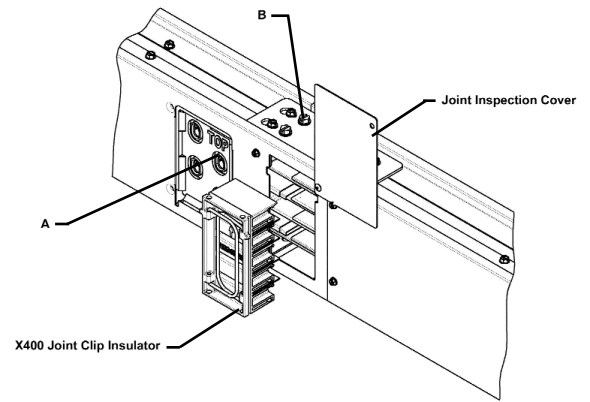

Figure 1
- 4.0.1.1 For normal edgewise mounting, the word "TOP" (A) is up. (See Fig. 1)
- 4.0.1.2 Loosen screws "B" and remove the external housing connectors. (See Fig. 1)